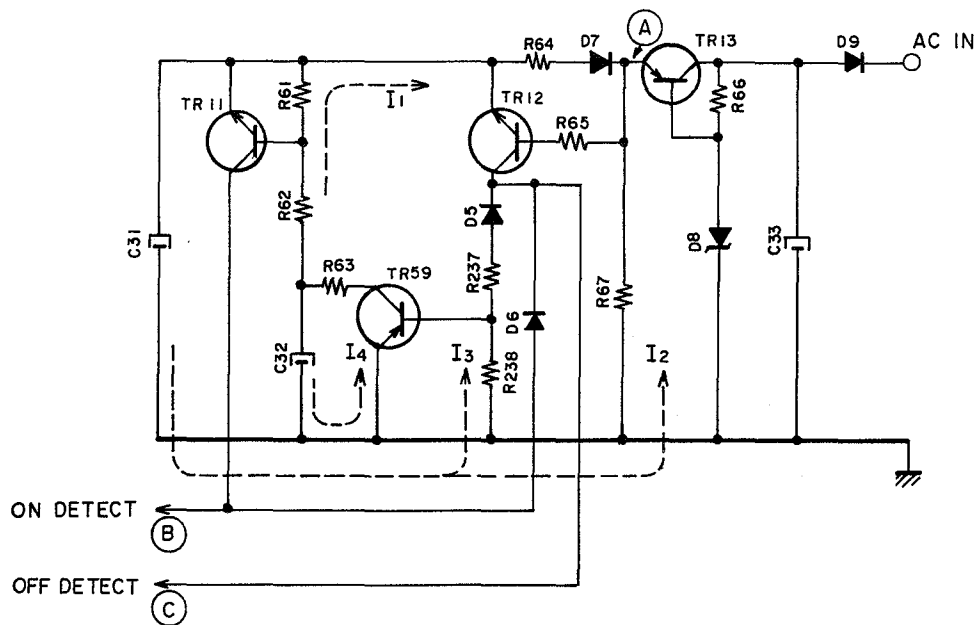

Fig. 6-7
6-7. POWER ON/OFF DETECTOR (Refer to Fig. 6-7) (See Amplifier Schematic Diagram)
- 1) When the power is turned ON, the potential at point (A) becomes negative and the charging current I₁ drains as in Fig. 6-7. Then the potential at the base of TR11 becomes negative as well (for about 1.2 sec.).
- 2) When the power is turned OFF, the potential at point (A) rises and becomes 0. The discharging
current I₂ from C31 drains as in Fig. 6-7 and the base potential of TR12 becomes higher than the emitter's and TR12 is turned ON.